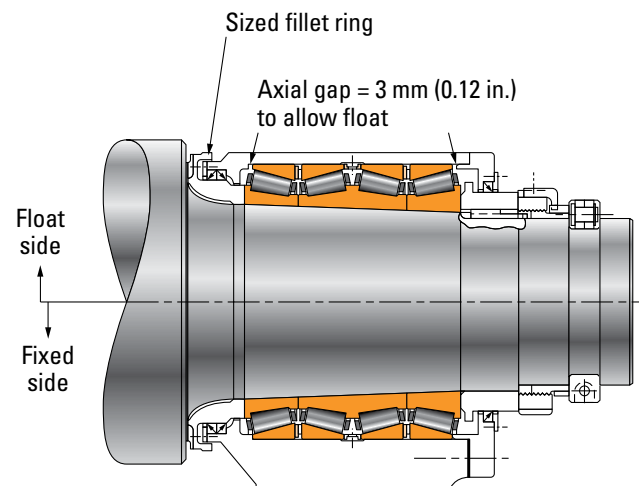

Fig. 88. TQITS bearing arrangement.
3. Fixed and float positions: The cups of the TQITS assembly are only clamped on the fixed position of the mill (normally the operator side). On the floating side (fig. 88), the cups are permitted to float axially in the chock bore. Suggested axial gap between cup faces and adjacent chock shoulder/cover face is 3 mm (0.120 in.) on each side. The float side is not only permitted to float through the cups within the chock bore, but also through the chocks in the mill housing's window. This arrangement permits free expansion and contraction of the roll caused by variation in roll temperatures.